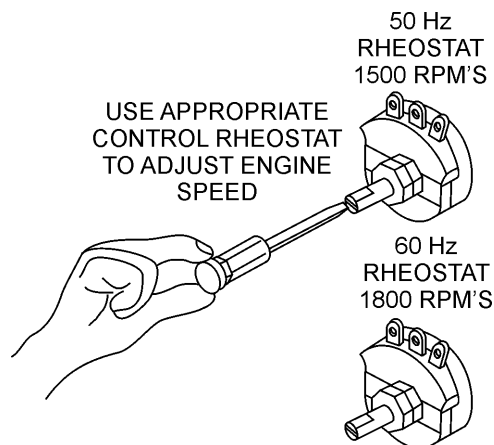

Figure 47. Engine Speed Rheostat's (50/60 Hz)
13. There are two engine speed control rheostat's (Figure 47), that are mounted on the side of the control box. One is used for 50 Hz operation the other is for 60 Hz. Under normal conditions these controls should not have to be used. In the event the engine speed needs to be adjusted, use the appropriate control to fine tune the engine speed.